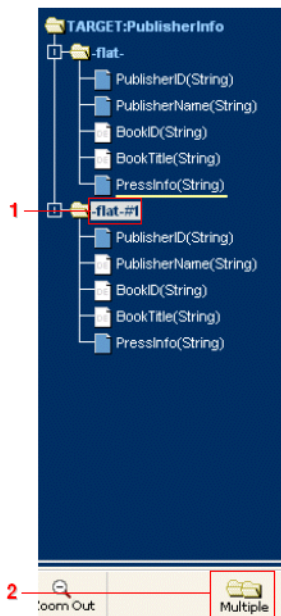

Figure 20-1. To create a condition, select the folder where you want to create the condition, then click the **Multiple** button.
- ❶ Click on the folder to which the condition will apply.
- ❷ Click on the **Multiple** button in the toolbar to bring up the **Mapping Options** dialog (see Figure 20-1 below).